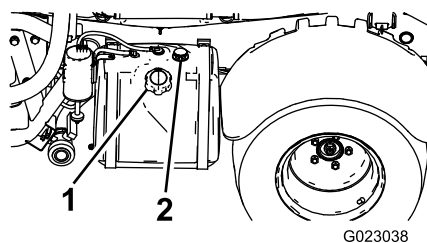

Figure 11
2. Clean the area around the fuel-tank cap (Figure 11).